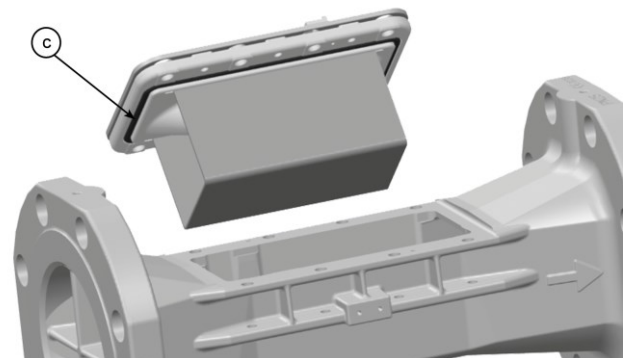

Fig. 10: Gasket "c" of the measurement insert
- Check the fit of the gasket "c" (see figure 10) on the interim cover. The gasket must be properly positioned in the groove and be free of any damage.